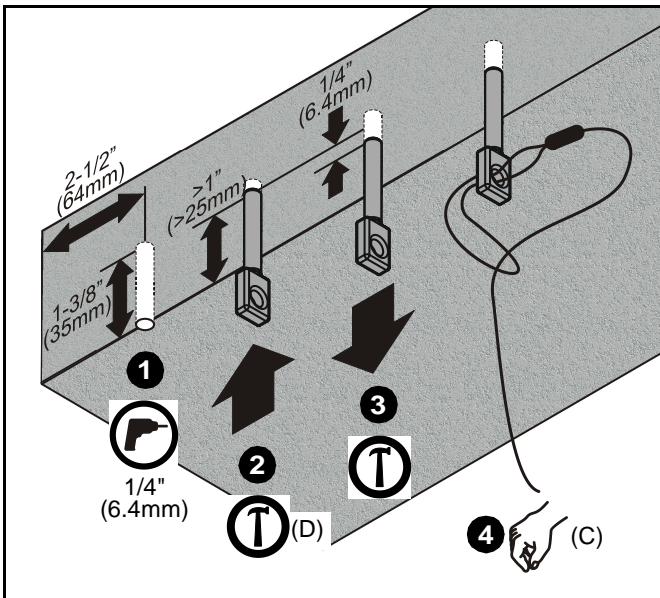

Figure 4
1. Drill 1/4" (6.4mm) diameter x 1-3/8" (35mm) deep hole at each marked cable anchor support location (See Figure 4). Ensure hole is at least 2-1/2" (64mm) from nearest concrete edge. Remove debris from hole.
2. Tap anchor (D) into each hole to a depth of at least 1" (25mm) (See Figure 4).
3. Using claw portion of hammer, set each anchor (D) by pulling it out of hole approximately 1/4" (6.4mm) (See Figure 4).
4. Insert portion of manufactured *loop* on cable (C) through hole in anchor (D) (See Figure 4). Insert end of cable (C) through loop. Repeat for 3 remaining support locations.